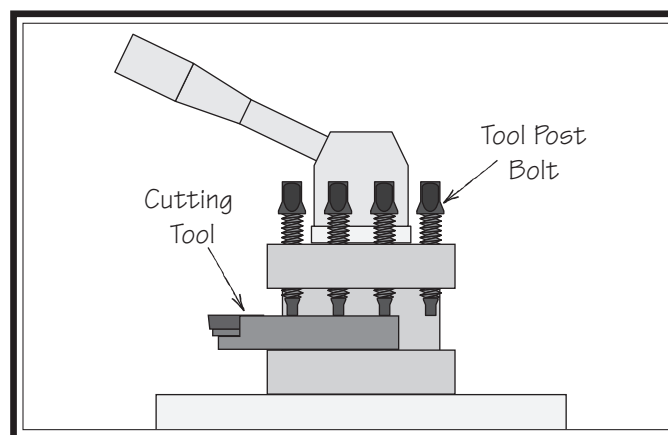

Figure 42. Example of tool mounted in tool post.
1. Adjust the tool post cap screws so that the cutting tool can fit underneath them (see **Figure 42** for an example).